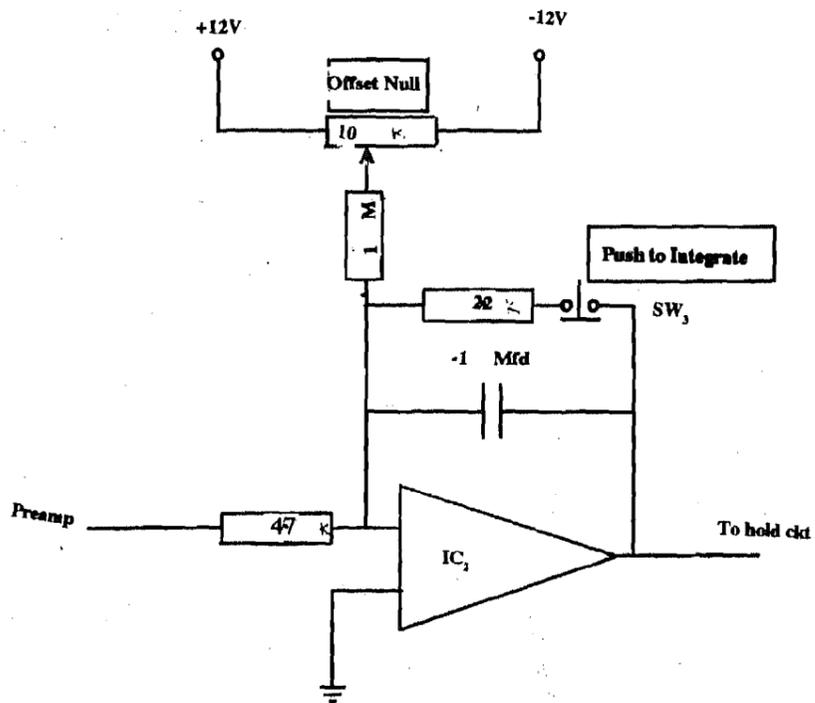

Fig.6.3
The voltage integrator is designed using 741 (IC2) Operational amplifier. The circuit is shown in Fig.6.3.
1) Compare Fig.6.3 with the integration circuit provided in the experiment on **OPAMP INTEGRATION** and note down the similarities and differences.